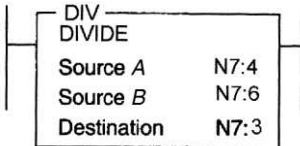

Figure 11-17 Logic rung for question 9.
9. The rung of Figure 11-17 is telling the processor to divide the value of word (a) ___ by the value of word (b) ___ and store the quotient in word (c) ____.